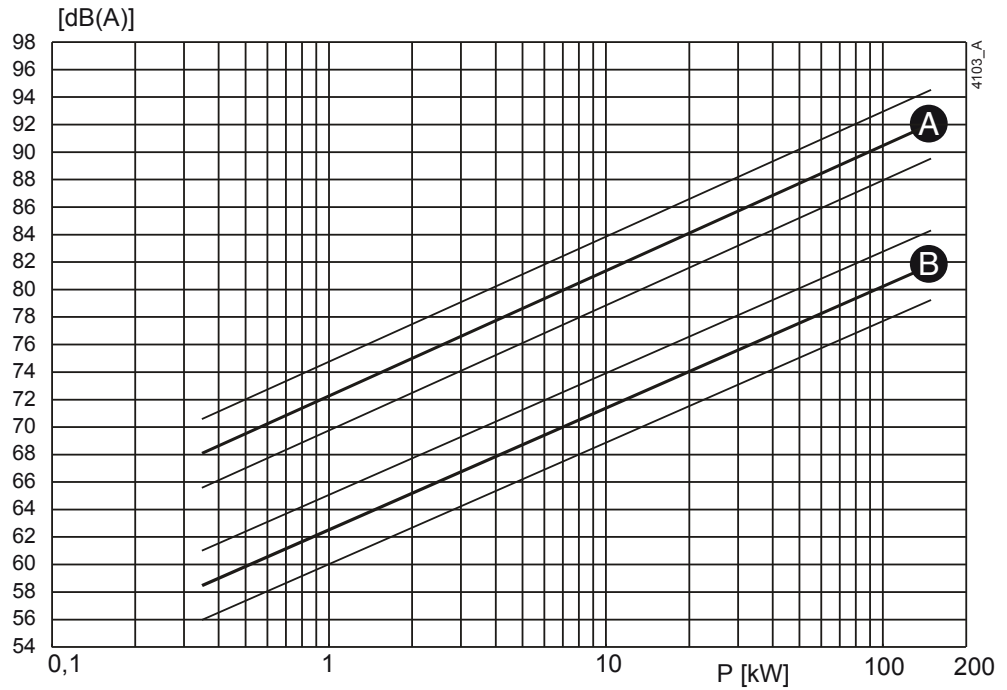
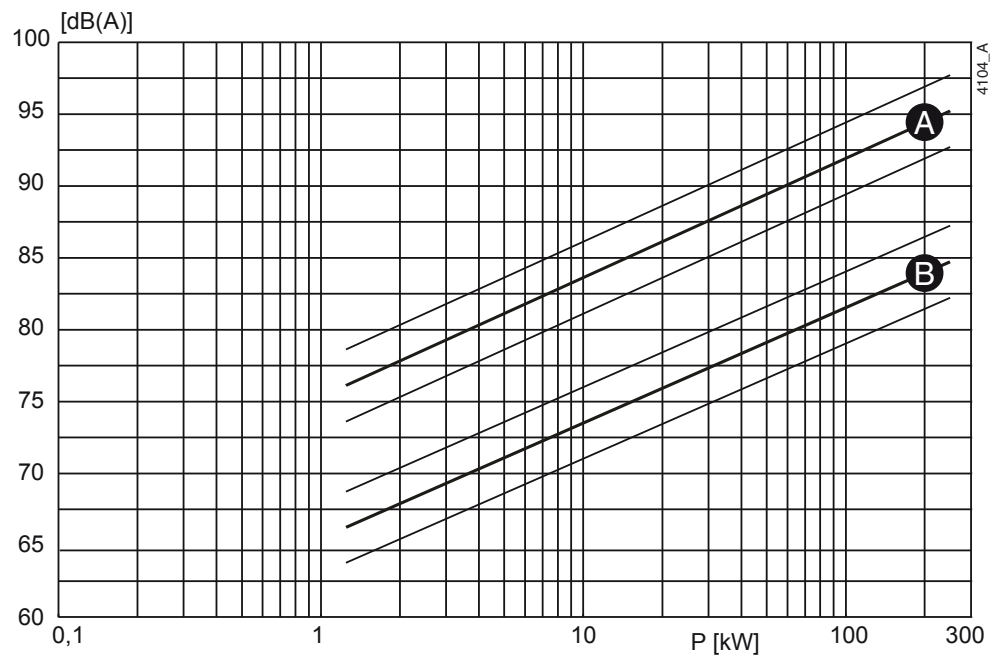

Figure 36: Noise level as function of pump power [kW] at  $1450 \text{ min}^{-1}$
Figure 37: Noise level as function of pump power [kW] at  $2900 \text{ min}^{-1}$
- 1 Determine the noise level (L1) of the pump, see figure 36 or figure 37.